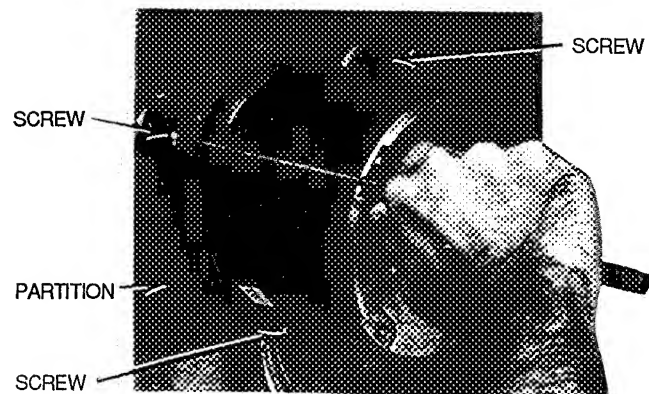

Fig. 24 — Removing Fan Motor
Fan Motor Removal (See Fig. 24)
6. Remove 3 screws securing motor to partition. See Fig. 24.